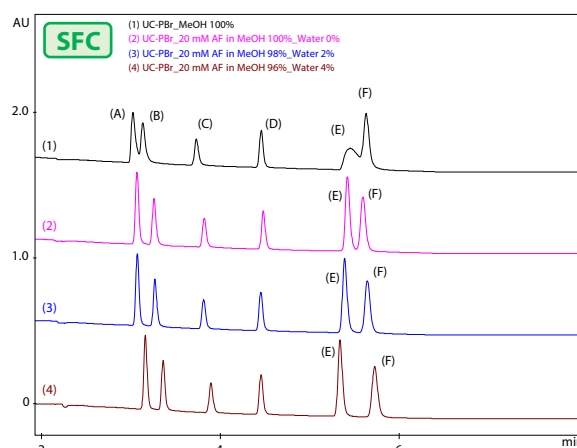

Fig. 7 Chromatograms with Varying Modifier Compositions
Based on the condition with the highest Evaluation Value (UC-PBr, 100% methanol), ammonium formate (20 mmol/L) was added to methanol, and water was further added at 0%, 2%, and 4% to evaluate the effect on separation of each compound. The resulting chromatograms are shown in Fig. 7. Adding ammonium formate sharpened the clozapine peak (Fig. 7(2)). Increasing water content improved separation between clozapine (E) and indomethacin (F), with the best separation observed at 4% water (Fig. 7(4)).